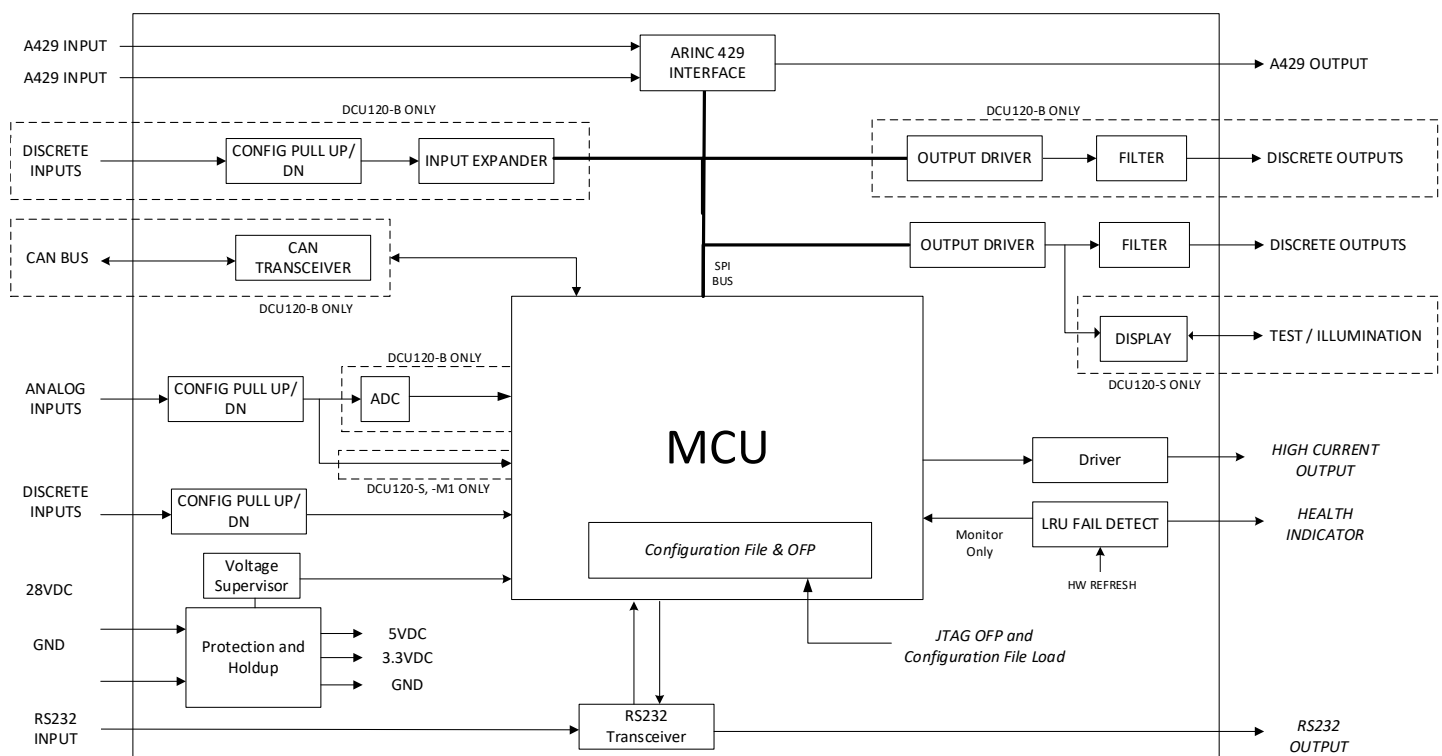

Figure 2. Simplified Block Diagram (All DCU120 Models)
Each of the DCU120-[] models use common internal hardware structure, as shown in Figure 2 to manage the inputs and outputs. The DCU120-B form factor has undergone an upgrade which added a CAN interface and upgraded the processor and analog interfaces. The DCU120-[] performs the primary data processing function using a COTS microcontroller affixed to a circuit board. The DCU120-S, DCU12-M1, and active legacy DCU120-B utilize identical software, while the updated DCU120-B model utilizes an enhanced version of the software to support an upgraded processor and the CAN interface. The DCU120 software can perform a wide variety of definitive operations. For each specific unique application, a factory set Configuration File (CF) is required to establish the specific input, function, and output configuration to the core software. Due to physical size constraints, the number of I/O varies by model.